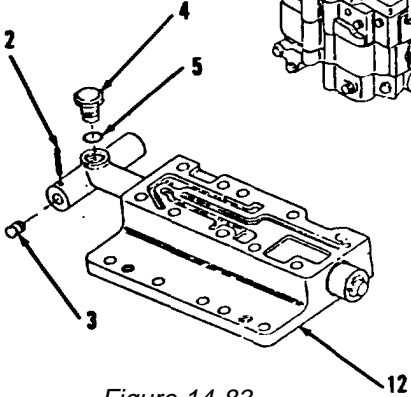

Figure 14-83.
2. Remove roll pin (2), detent (3), stop (4) and preformed packing (5, Figure 14-83) from pilot valve body (12). Discard preformed packing (5).